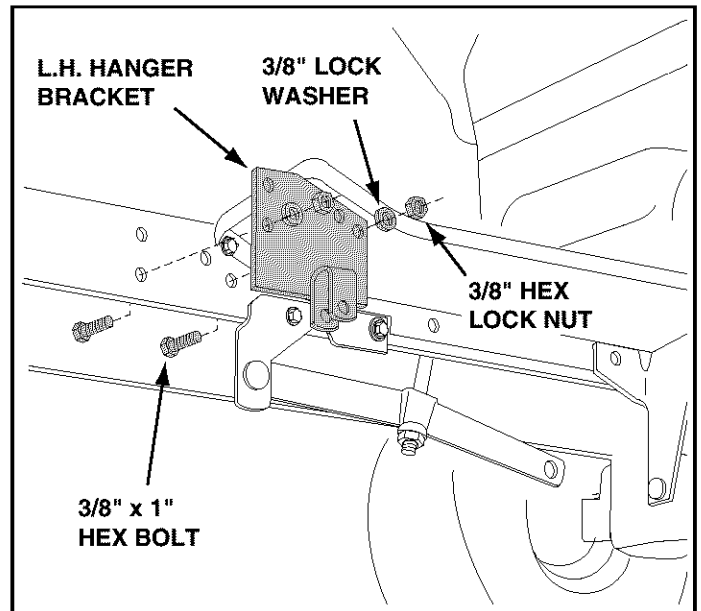

FIGURE 5 **LEFT SIDE VIEW**
- Assemble the L.H. hanger bracket to the left side of the tractor frame using two 3/8" x 1" hex bolts, two 3/8" lock washers and two 3/8" hex lock nuts as shown in figure 5.